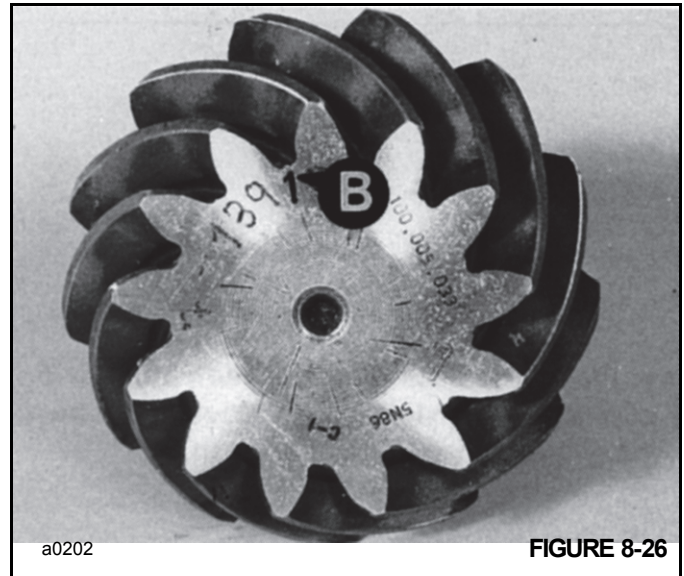
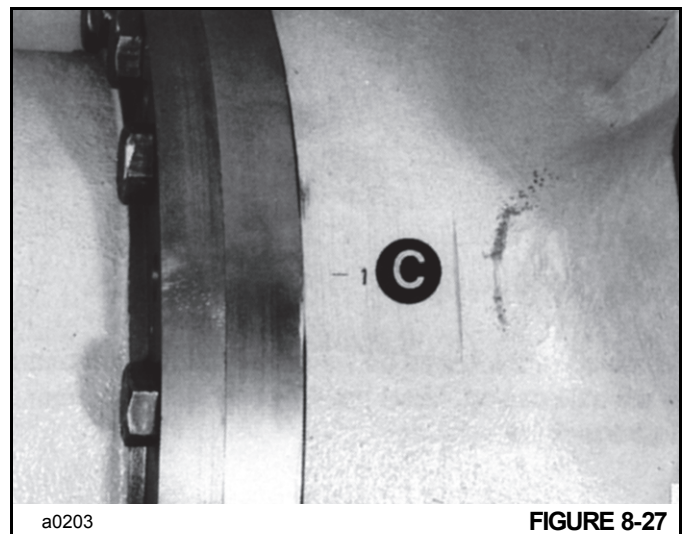

FIGURE 8-26
FIGURE 8-27
3. Find the mounting distance value **B** Figure 8-26 on the pinion and deviation **C** Figure 8-27 on the drive head housing. Both units are in millimeters. To convert millimeters to inches, multiply millimeters by 0.03937.